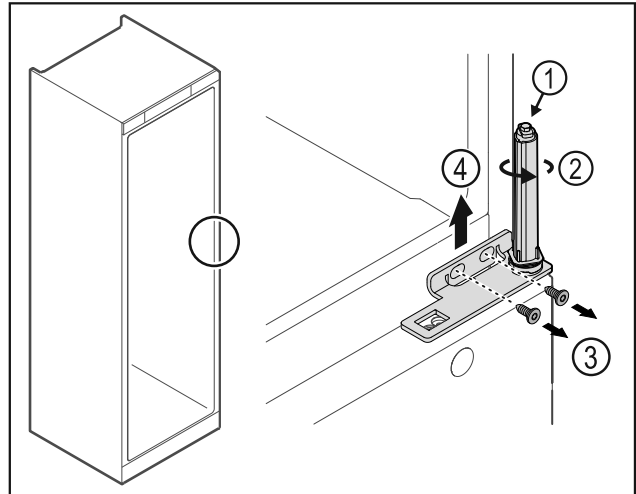

Fig. 34
- ▶ Do not disassemble the door closing system Fig. 34 (1).
- ▶ Turn the closing system Fig. 34 (2) until it clicks.
- ▶ Loosen the screws Fig. 34 (3) and lift off the hinge Fig. 34 (4).